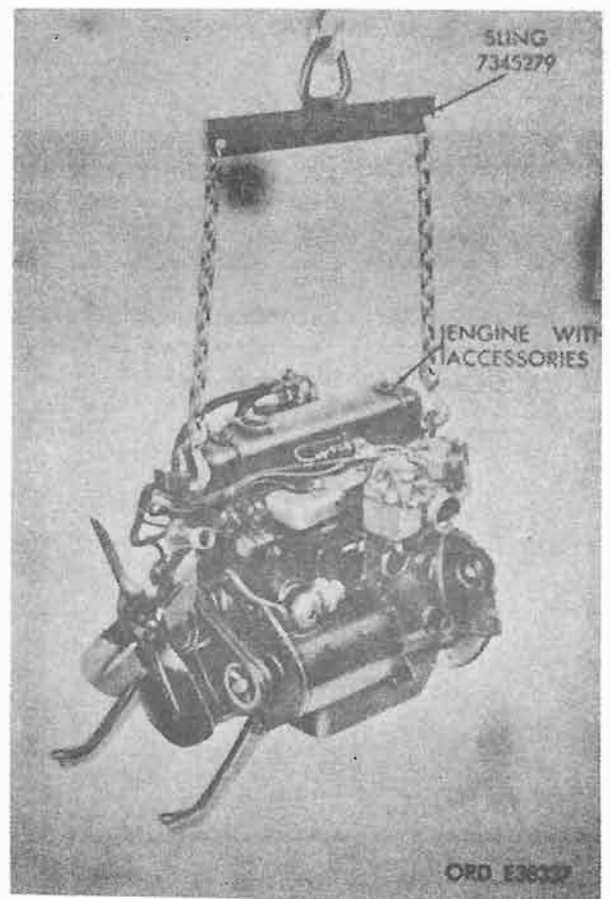

Figure 4-48. Lifting engine.
a. *Lifting Engine.* Engine assembly may be handled with a hoist, using sling (7345279) as illustrated by figure 4-48.